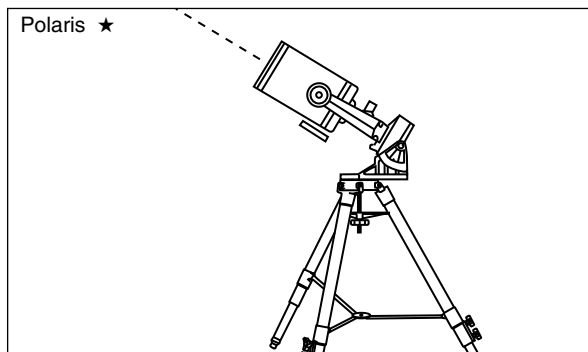

Fig. 25: Mount too high.
- b. If the star drifts North, (or up) the telescope's polar axis is pointing too high (Fig. 25).